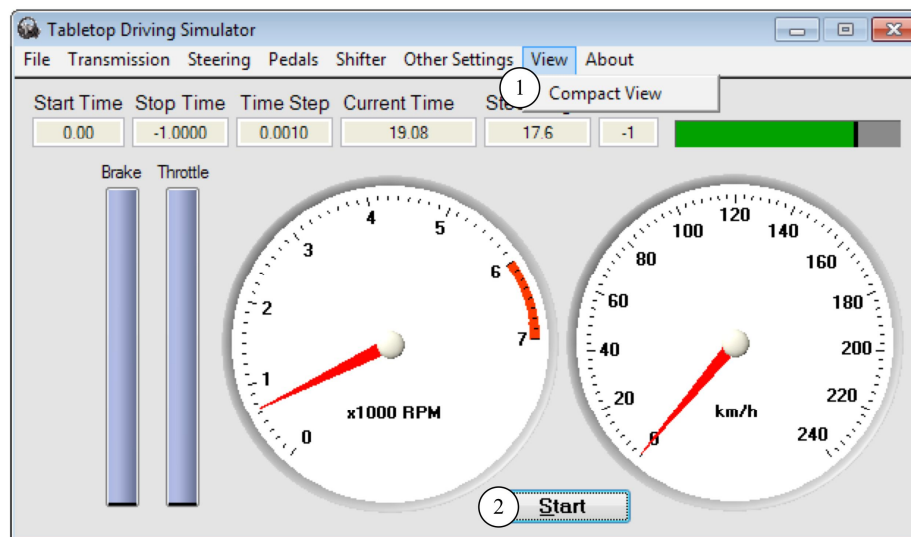

Figure 2. Tabletop Drive Simulator (full view).
The **Run Control** example datasets that link to a dataset in the **Models: Self-Contained Solvers** library make use of a stand-alone application called Tabletop Driving Simulator (Figure 2).
The Tabletop Driving Simulator has two modes for display. The full mode (Figure 2) includes a menu bar with options for adjusting connections to the vehicle model and hardware controllers. A compact view can be selected using the **View** menu (1) (Figure 2). This is recommended for normal use, as it frees up space on the monitor to provide a more immersive viewing experience